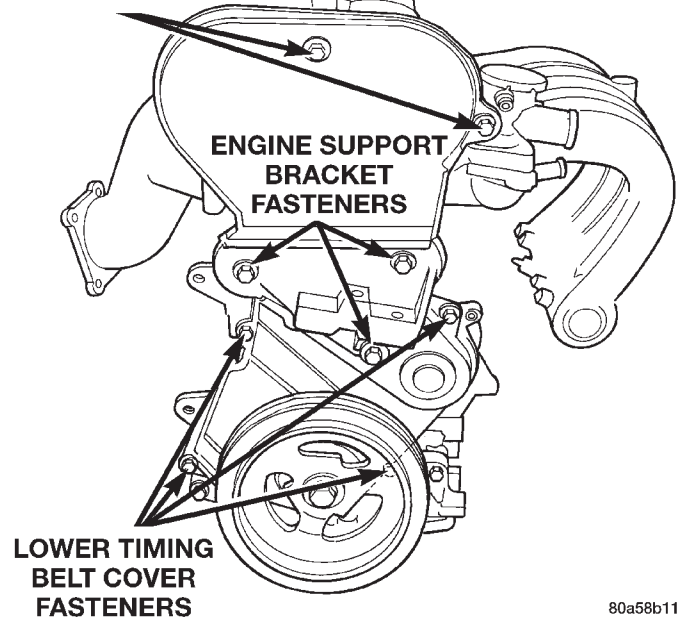

Fig. 51 Front Timing Belt Covers
(1) Remove crankshaft damper. Refer to crankshaft damper removal for procedure.
(2) Remove front timing belt cover fasteners (Fig. 51) and remove cover.
(3) Remove engine mount bracket (Fig. 51).
(1) Install the engine mount bracket and front timing belt cover (Fig. 51).
(2) Install crankshaft damper. Refer to crankshaft damper installation for procedure.